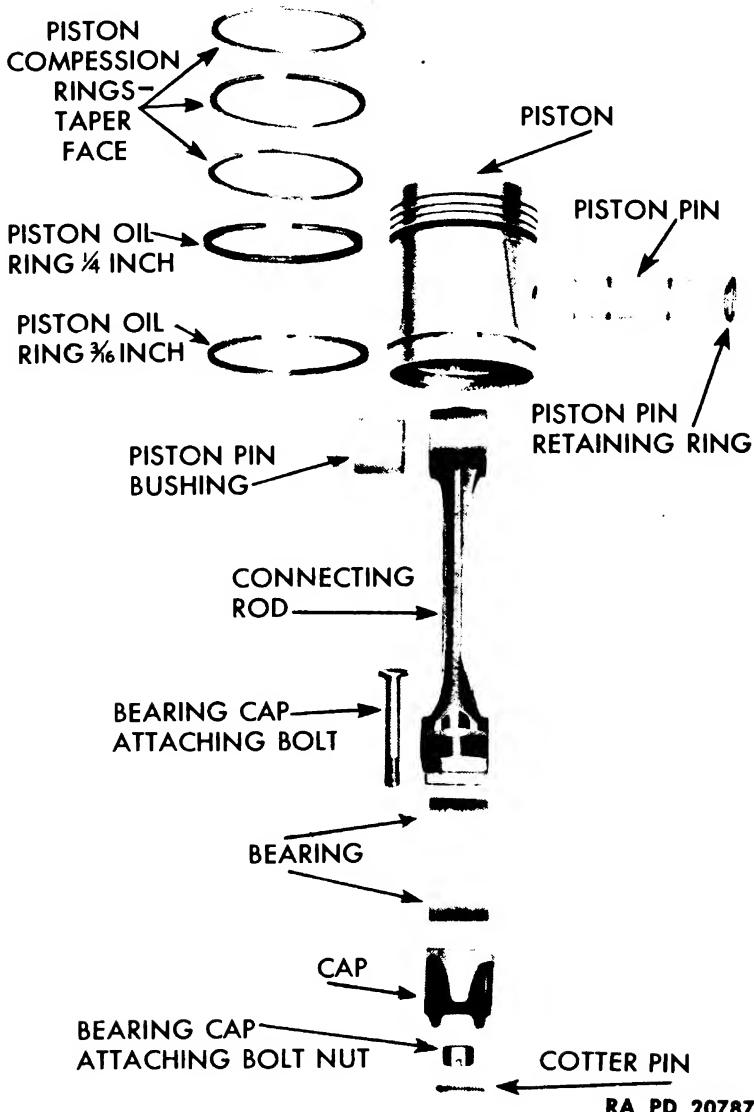

Figure 55 — Piston and Connecting Rod Components
b. **Clean (fig. 55).** Clean all parts with dry-cleaning solvent, and dry with compressed air. Scrape carbon from head of piston. Clean ring grooves with piece of piston ring ground to a chisel edge, or with a groove-cleaning tool.
(2) CONNECTING RODS. If old pistons are being used with oversize piston pins, hone pin bushing to 1.5033 to 1.5035 inches for 0.003-inch oversize piston pins. For 0.005-inch oversize pins, hone bushing to 1.5053 to 1.5055 inches. When new pistons are installed and piston pin bushings are worn, install new piston pin bushings and new standard piston pins. With a suitable size drift, drive out piston pin bushing. Press in new bushing with two oil holes at right angles to rod, and with open ends of inside oil grooves toward top of rod. Hone bushing to 1.5003 to 1.5005 inches. Piston pin should be 0.0003 inch loose in connecting rod piston pin bushing.
e. Assemble. Heat piston in water to approximately 160°F. Position piston over rod so that piston pin hole in rod lines up with hole in piston. Push piston pin into place, and install new piston pin lock rings (fig. 53). Place piston rings in their proper grooves (fig. 55), using a piston ring removing and replacing tool.